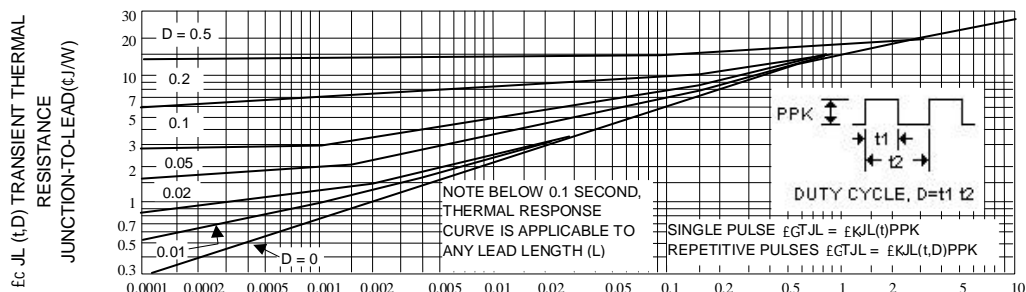
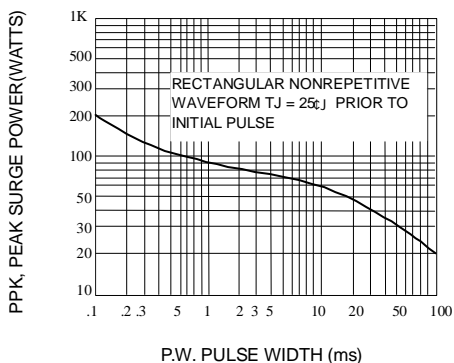
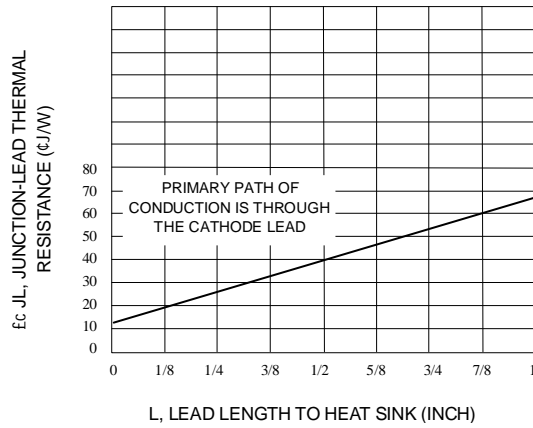

Fig. 2-TYPICAL THERMAL RESPONSE L,
Fig. 3-MAXIMUM SURGE POWER
Fig. 10-TYPICAL THERMAL RESISTANCE
4. SURGE CURRENT ( $I_R$ ) NON-REPETITIVE - The rating listed in the electrical characteristics table is maximum peak, non-repetitive, reverse surge current of 1/2 square wave or equivalent sine wave pulse of 1/120 second duration superimposed on the test current,  $I_{ZT}$ , per JEDEC standards, however, actual device capability is as described in Figure 3.
$\theta_{GT_{JL}}$  is the increase in junction temperature above the lead temperature and may be found from Figure 2 for a train of power pulses or from Figure 10 for dc power.
Data of Figure 2 should not be used to compute surge capability. Surge limitations are given in Figure 3. They are lower than would be expected by considering only junction temperature, as current crowding effects cause temperatures to be extremely high in small spots resulting in device degradation should the limits of Figure 3 be exceeded.